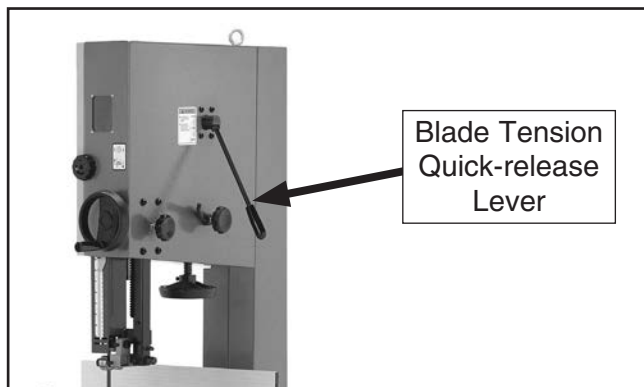

Figure 44. Blade tension quick-release lever (G0513X2 shown).
- Engage the blade tension quick-release lever to apply tension to the blade (see **Figure 44**).